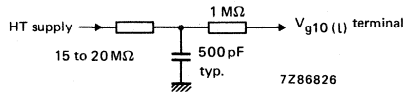

Fig. 10.
1. These values are valid at cut-off of both flood guns and the writing gun. The H.T. unit must be capable of supplying 0,5 mA. To protect the tube against excessive surge current during erasure, an RC network as shown in Fig. 10 must be connected in series with the screen terminal lead; the resistance of 15 to 20 M $\Omega$  includes the internal resistance of the H.T. supply.